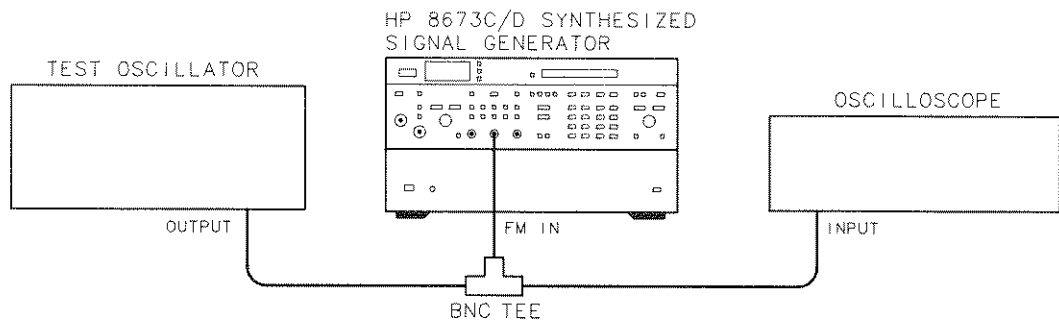

Figure 3-9. FM Functional Check Setup
37. Set the test oscillator to 3 MHz at minimum output level of 0V. Then, connect test oscillator and oscilloscope to the Signal Generator as shown in Figure 3-9.